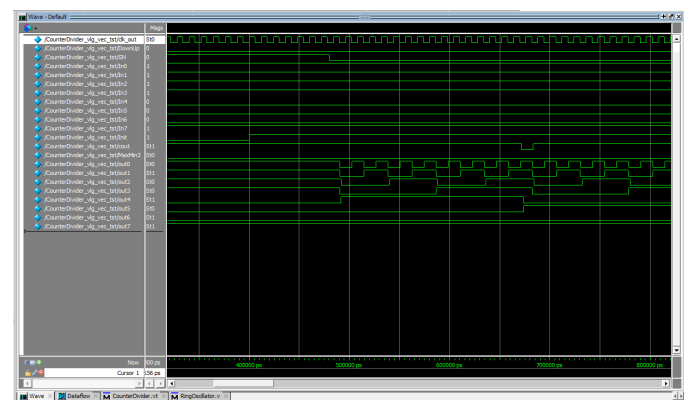

Figure 17
- A clearer picture of Figure17 exists in Project/Part3/Section2 folder.